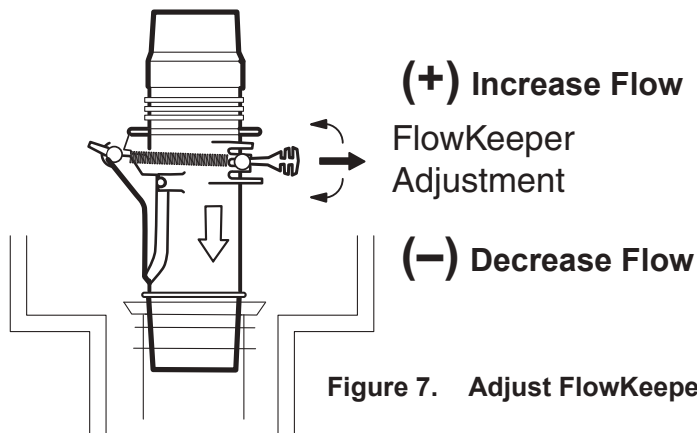

Figure 7. Adjust FlowKeeper™ Valve
- Flowkeeper valve at the skimmer for skimmer installation (Figure 7).